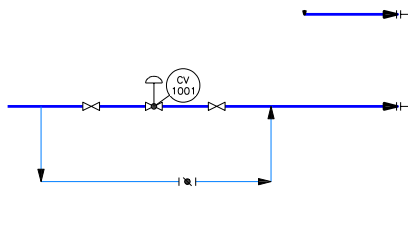

Figure 2-63 Location of the gate valve and butterfly valve on the line connected to the vessel
9. Choose **Gate Valve** from the **Valves** area in the **Valves** tab of the **TOOL PALETTES - P&ID PIP**, and place it at two locations, as shown in Figure 2-63.
10. Next, choose **Butterfly Valve** and place it at the location shown in Figure 2-63.